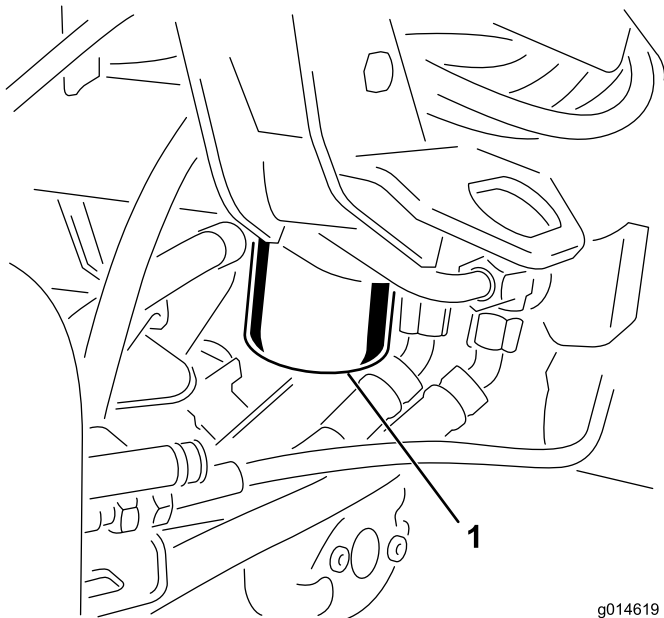

Figure 45
1. Clean the area around the filter mounting area (Figure 45). Place a drain pan under the filter and remove the filter.